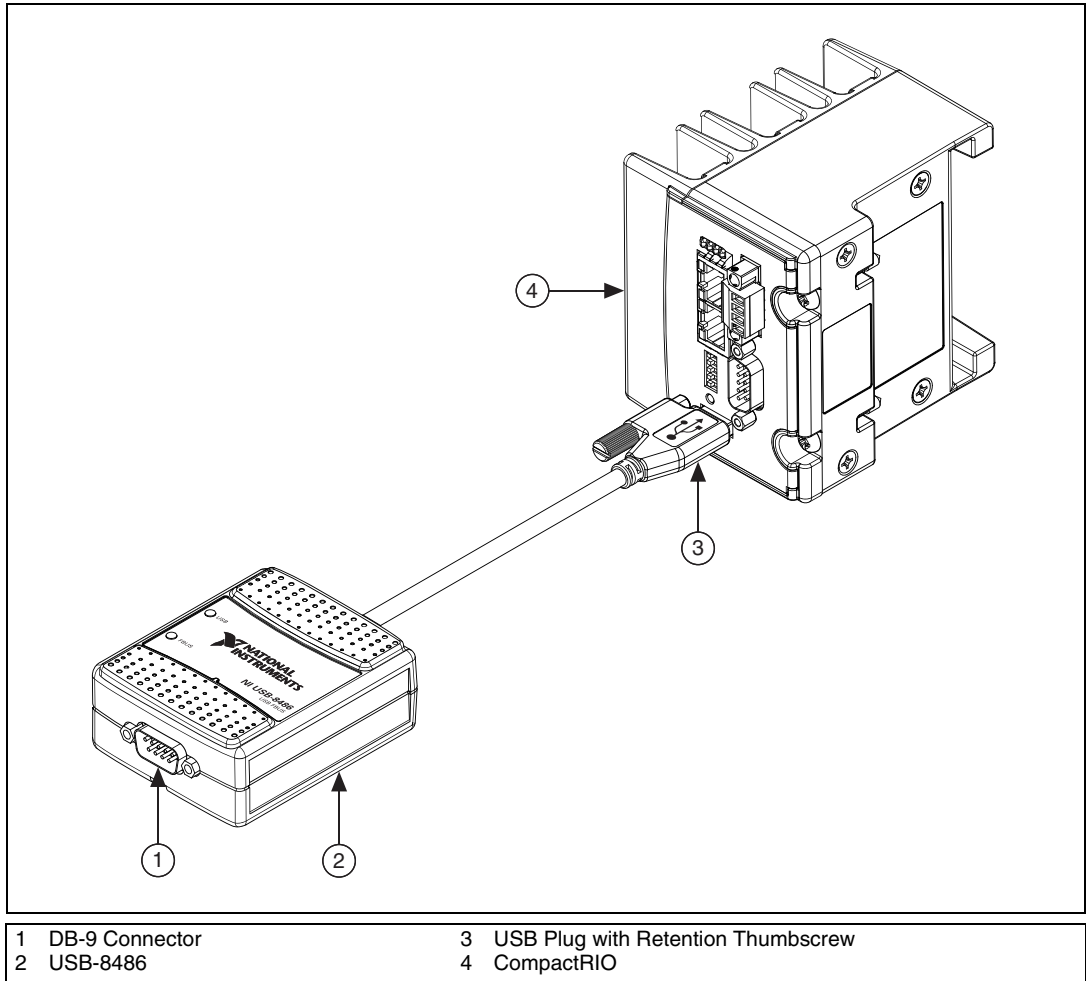

Figure 2-9. Connecting the USB-8486 to a CompactRIO
You then can connect the mounted USB-8486 to a CompactRIO, as shown in Figure 2-9.
2. Insert the USB-8486 into the USB port, as shown in Figure 2-9.